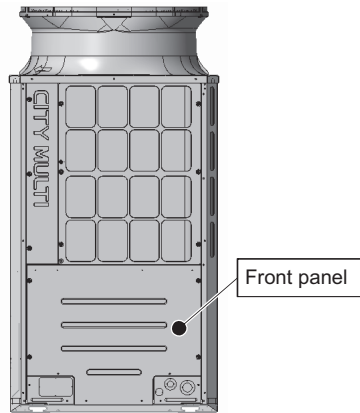

Figure 1
- (1) Remove the front panel from the unit by unscrewing the eight screws. (See Figure 1.)